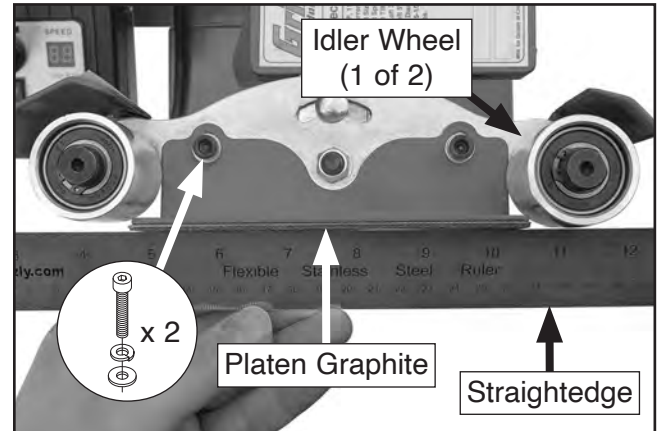

Figure 52. Checking distance between platen graphite and idler wheels.
5. Place straightedge across platen graphite and idler wheels, as shown in **Figure 52**, and measure distance between each idler wheel and straightedge.
6. Loosen (2) cap screws shown in **Figure 52**, adjust platen so each idler wheel is about $\frac{1}{8}$ " from straightedge, then tighten screws.